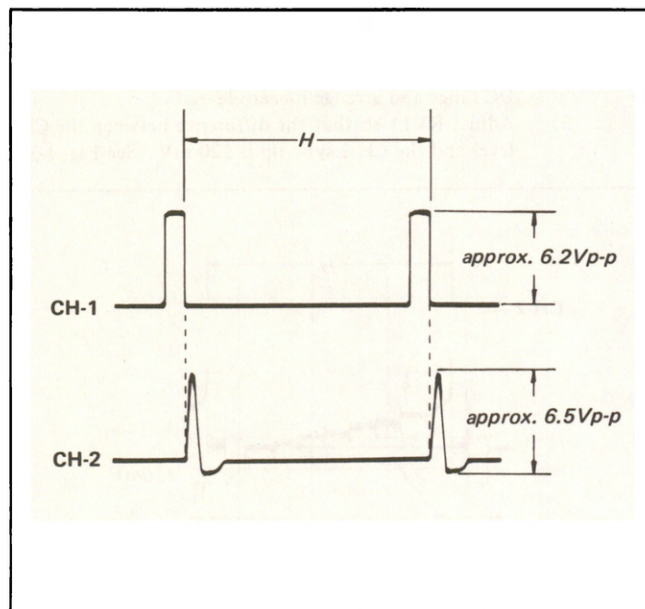

Fig. 4-30. AGC check
- (1) Supply the color bar signal and set up the RECORD mode.
- (2) Connect the oscilloscope CH-1 probe to pin 3 of IC1 and the CH-2 probe to pin 4 of IC1.
- (3) Check that the CH-1 and the CH-2 waveforms are as shown in Fig. 4-30.